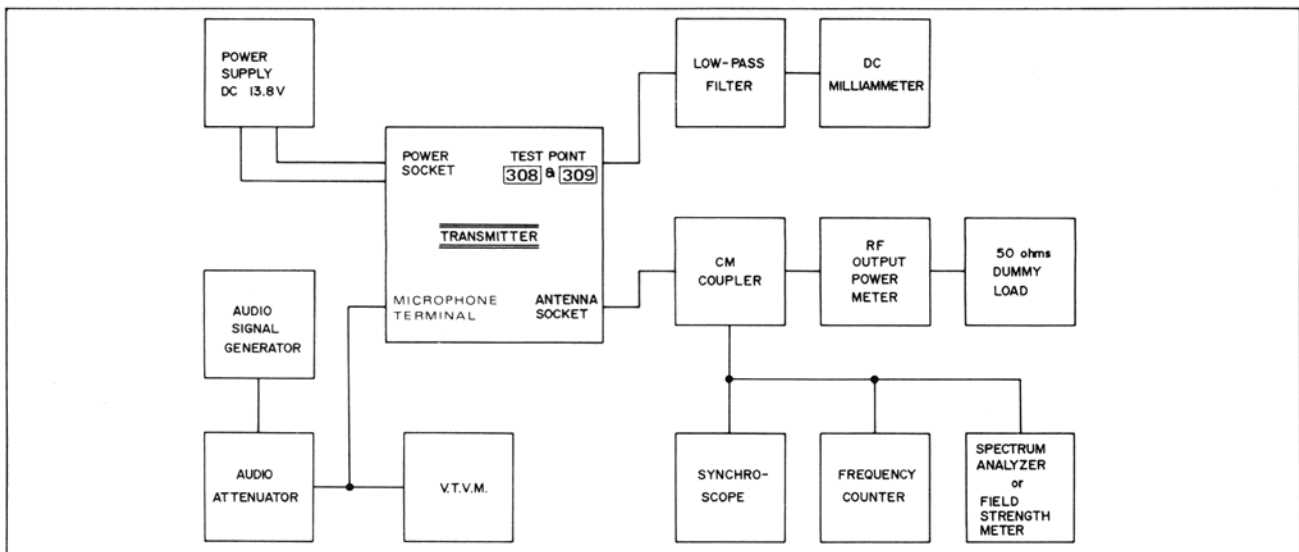

Figure 5
- 2- When making the connection of measuring instruments, see Figure 5.